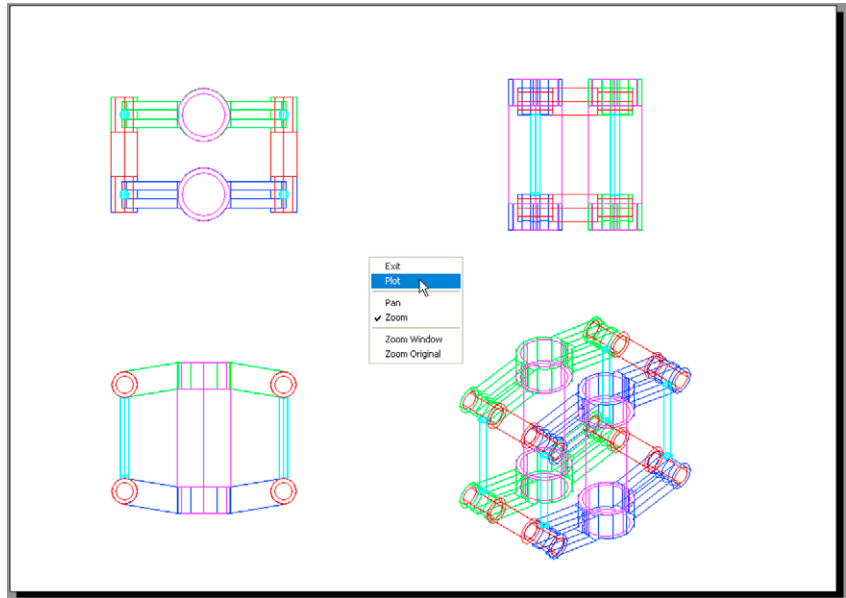

Fig. 19.10 First example – Printing/Plotting
First example – Printing/Plotting (Fig. 19.10)
11. Click the **Preview** button. The full preview of the plot appears (Fig. 19.10).
1. Open the 3D model drawing of the assembly shown in Fig. 19.10 in a single **ViewCube/Isometric** view.